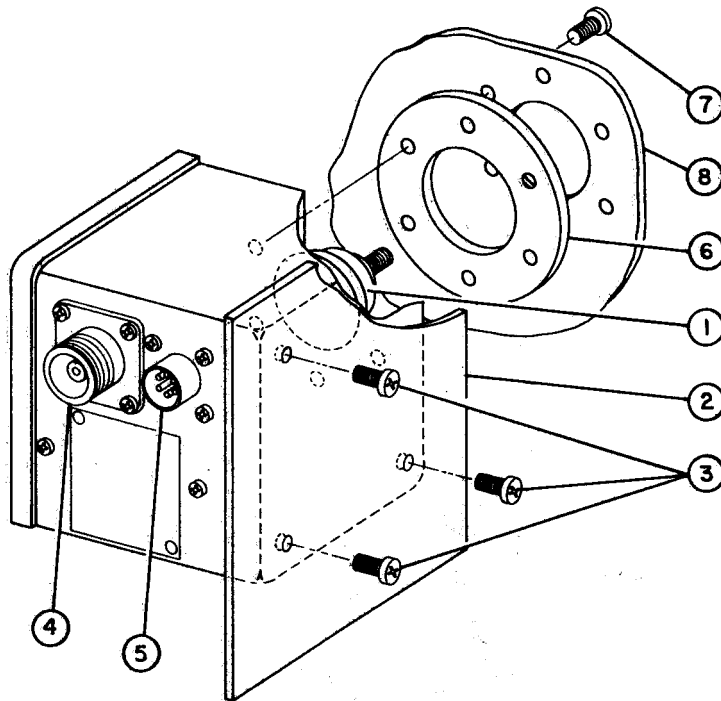

Figure 3-6. Antenna-Coupler, Mounting
1. Refer to figure 3-6. Remove cable connectors from J9741 (4), J9742 (5) and J9743 (1).
2. Remove the four Phillips head screws (3) that secure the antenna coupler to its mounting bracket or shelf (2).
1. Refer to figure 3-6. Position antenna-coupler on its mounting bracket or shelf (2). Secure it by inserting and tightening four Phillips head screws (3).
2. Attach cable connectors to J9741 (4), J9742 (5), and J9743 (1).
2. Remove the six phillips head screws (7) that secure the antenna-coupler and spacer (6) to the aircraft skin (8).
1. Refer to figure 3-6. Position the antenna-coupler and spacer (6) at its aircraft skin mounting location. Secure it by tightening the six phillips head screws (7).
2. Attach cable connectors to J9741 (4), J9742 (5) and J9743 (1).